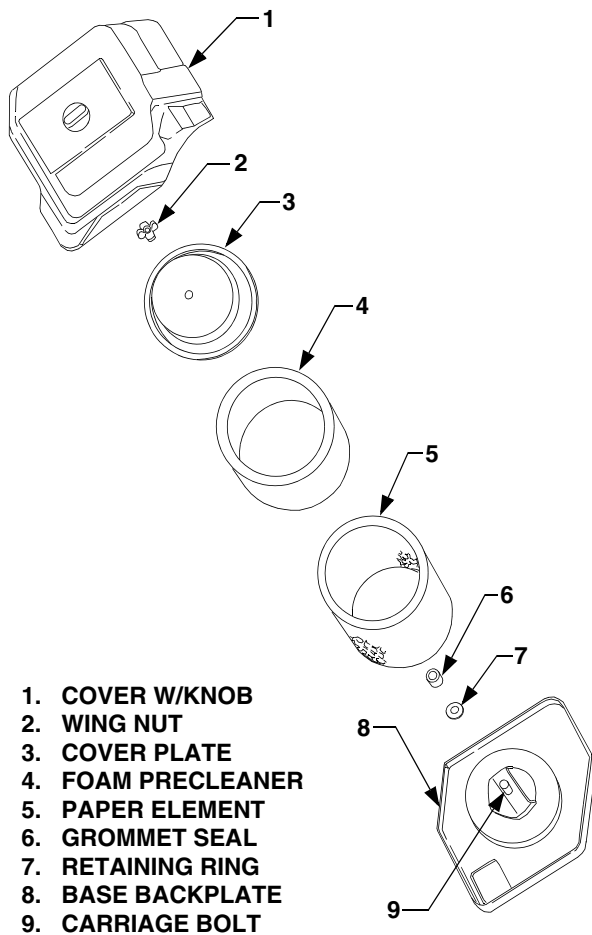

Figure 23
1. Unfasten the air cleaner cover retaining knob and remove the air cleaner cover (Refer to Figure 23).
2. Remove the foam precleaner by sliding it up off the paper element (Refer to Figure 23).
The air cleaner element cover plate (Refer to Figure 23) must be properly installed to seal against the gasket surface of the paper element.
6. Inspect the rubber grommet seal (Refer to Figure 23) for deterioration, cracks, and for a snug fit on the carriage bolt. Replace if damaged or worn.
7. After making certain the carriage bolt is secured in position by the retaining ring, slide the grommet seal fully onto carriage bolt. Refer to Figure 23.